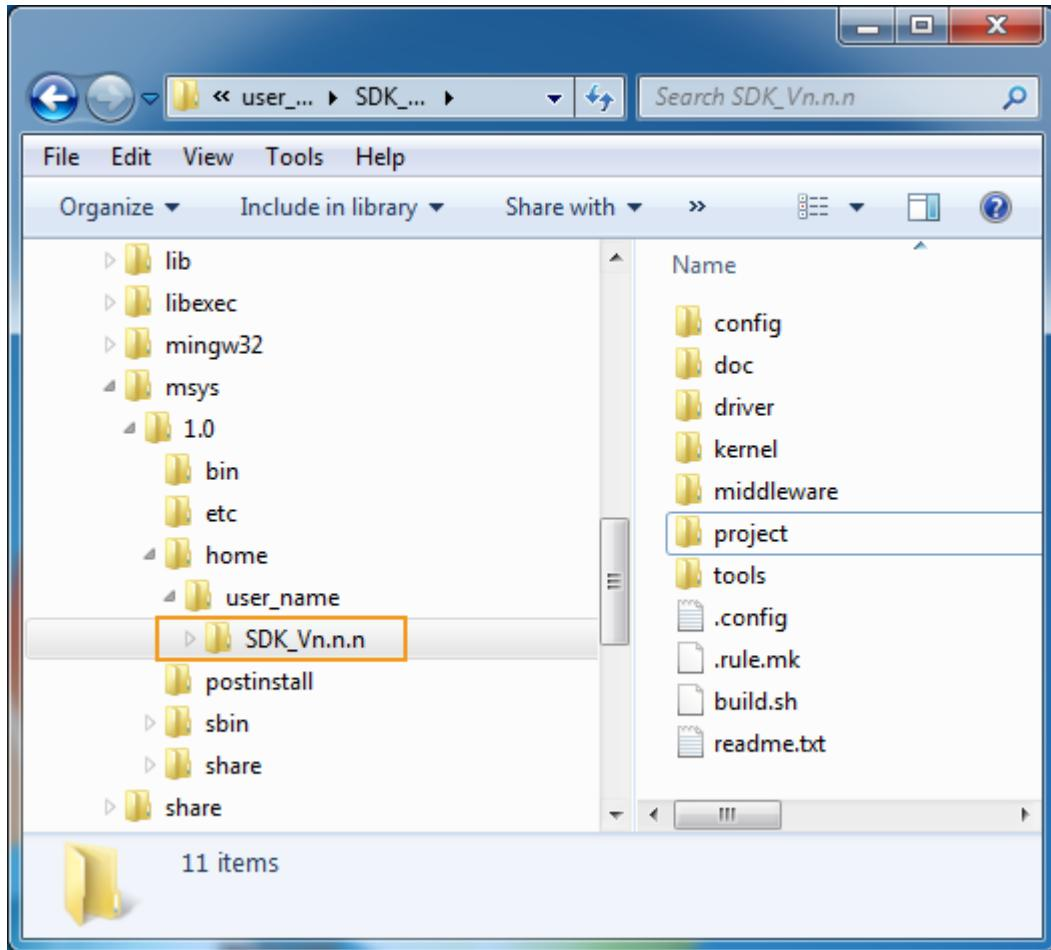

Figure 41. MinGW folder structure
- 10) Copy the SDK to MinGW home\<user_name> folder, as shown in Figure 41.